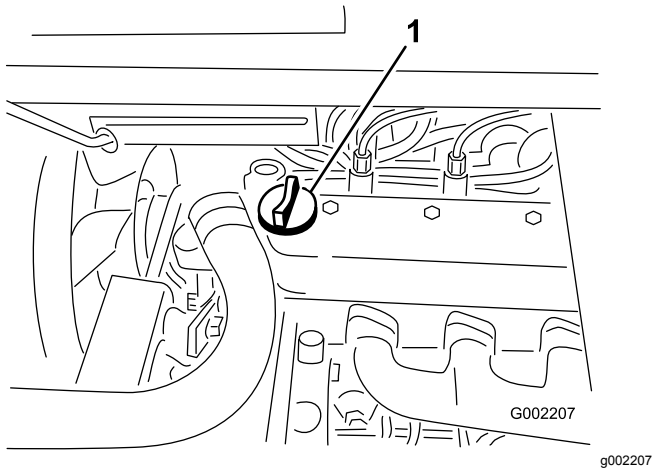

Figure 19
3. If the oil level is low, remove the filler cap from the valve cover (Figure 19) and pour oil into the opening until the oil level is up to the Full mark